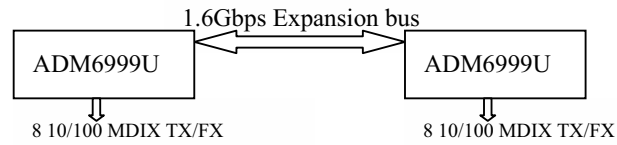

Figure 1 ADM6999U/UX's Application
- Figure 1 ADM6999U/UX's Application 9